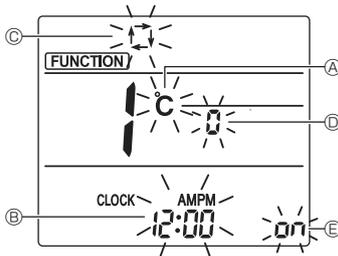

Fig. 4-2
- Press the **▲** button ④ to change the function No.
3. Check that function No. "1" is displayed, and then press the **SET** button ③.
- The Screen Display setting screen will be displayed. (Fig. 4-2)
## 4.2. Changing the temperature unit ④ [Factory setting: °C] (Fig. 4-2)